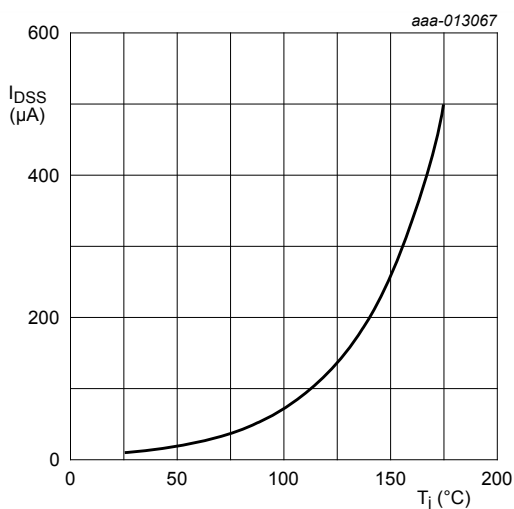
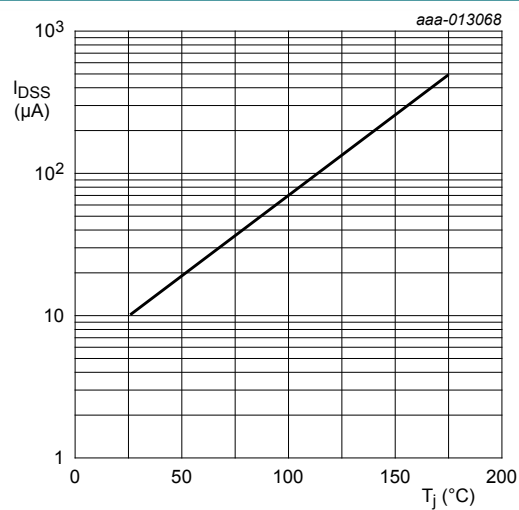
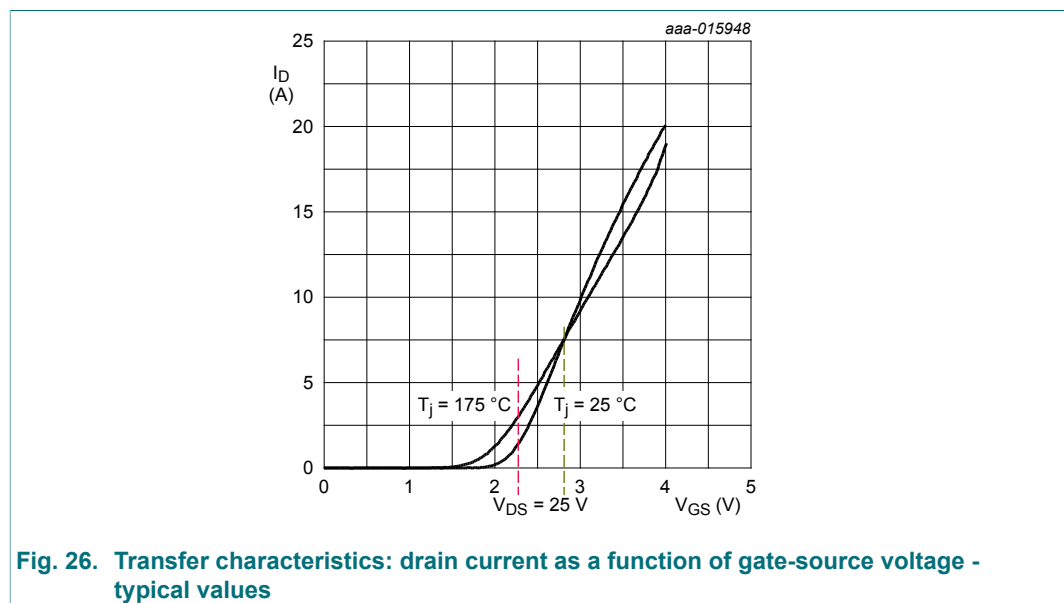

Fig. 21. I_{DSS} as a function of temperature, linear axes
Fig. 22. I_{DSS} as a function of temperature, log - linear axes
Fig. 26. Transfer characteristics: drain current as a function of gate-source voltage - typical values
A: The fundamental relationship between drain leakage current and temperature is exponential in form. The data sheet gives maximum values of I_{DSS} at $T_j = 25\text{ °C}$ and 175 °C . This example is specific to Nexperia Trench generation 2 technology but the same principles can be applied for other Nexperia technology. An exponential fit to these points provides the plot of Fig. 21. It is also in line with some testing which is performed during the development of new MOSFET technologies.
Fig. 22 is the same curve, plotted with a log scale for I_{DSS} to ease reading the value of $20\text{ }\mu\text{A}$ at 50 °C . These values are for a V_{DS} at the rated voltage. Reducing voltage reduces leakage current. Note that Fig. 21 and Fig. 22 are not in the device data sheets.
1. The graph depicted in Fig. 26 is typical. The BUK9275-55A MOSFET has a distribution of parameter values within the production tolerance limits. The graph is only intended to illustrate how I_D , V_{DS} and V_{GS} are related when the MOSFET is operating for a particular V_{DS} condition. $V_{GS(th)}$ has a significant influence on the characteristic of a particular device. Temperature is also a major factor. The limiting values and characteristics listed in the data sheet should be used for circuit design.
2. Junction temperature T_j strongly affects the I_D / V_{GS} characteristic. The graph in Fig. 26 is for $T_j = 25\text{ }^{\circ}\text{C}$ and $T_j = 175\text{ }^{\circ}\text{C}$. The same graph for the same part with $T_j = -55\text{ }^{\circ}\text{C}$, would be very different. The mode of operation preferred by the customer is with V_{GS} in the range 2.2 V to 3 V in the saturation region before full enhancement. In this mode, the MOSFET power dissipation is likely to be significant. As a result, the junction temperature may be high. Figure 22 demonstrates how I_D changes with T_j for a given V_{GS} value.